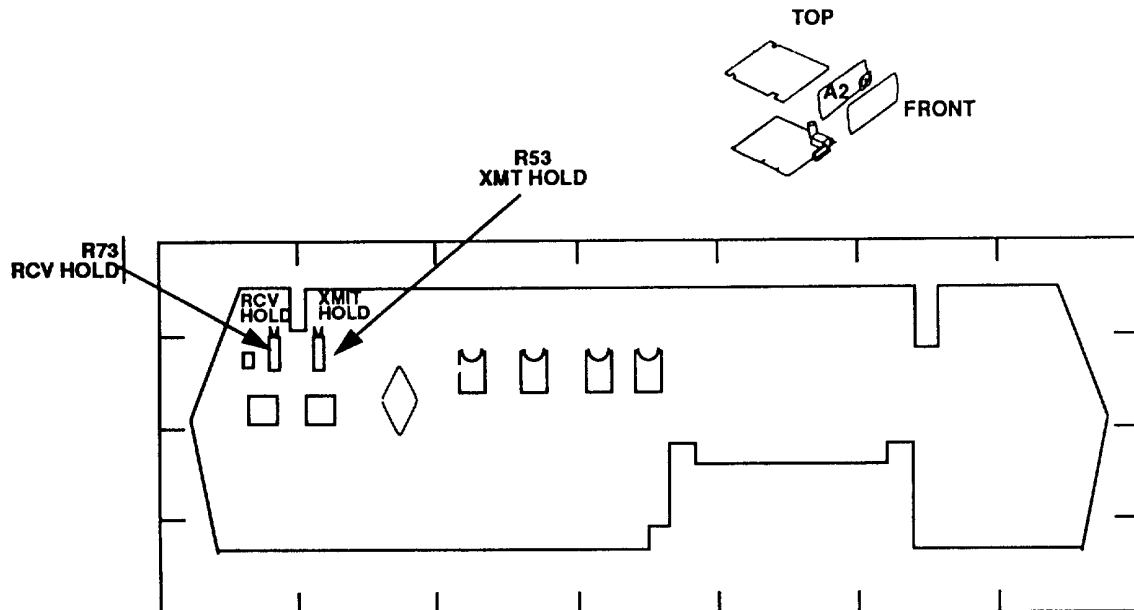

Figure 3. A2 board - adjustment locations.
- (1) Set calibrator for a 6.9 V dc output and resistance standard dials for 0.0Ω.
- (2) Position controls as listed in (a) through (c) below:
- (3) Adjust R53 XMT HOLD (fig. 3) until multimeter indicates 24 mA (R).
- (4) Set calibrator for a -6.9 V dc output. Multimeter indication will not change.
- (5) Set calibrator for a 6.9 V dc output.
- (6) Press **REV** pushbutton.
- (7) Adjust R73 RCV HOLD (fig. 3) until multimeter indicates 24 mA (R).
- (8) Repeat (4) above.
- (9) Adjust calibrator for a 50 V dc output. Multimeter will indicate less than 26 mA.
- (10) Press **NOR** pushbutton. Multimeter will indicate less than 26 mA.